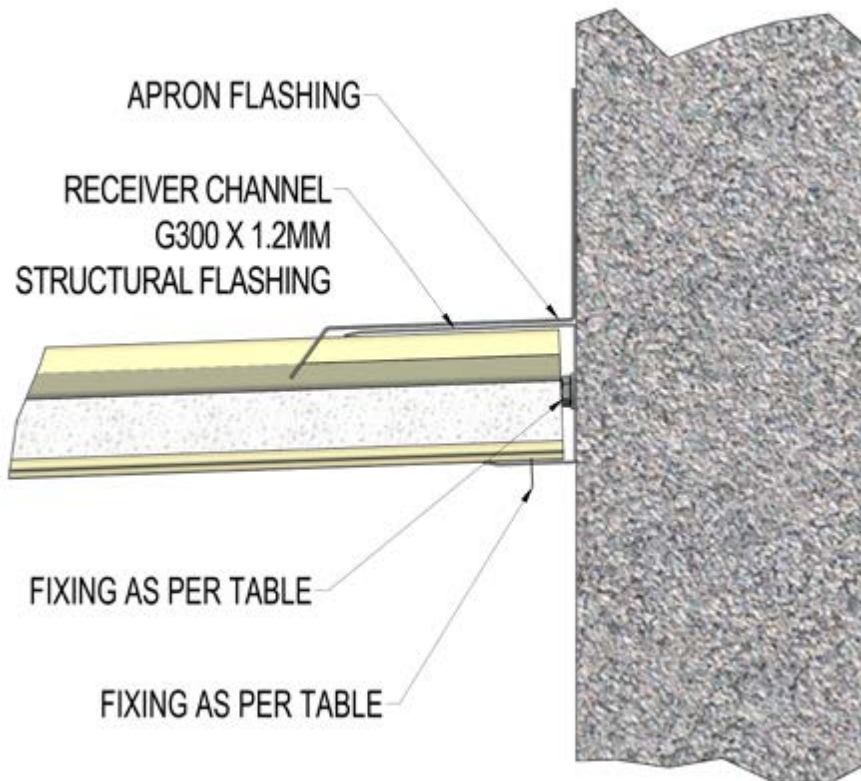

Figure A33
**Roofing to Masonry Wall (see Figure A33)**